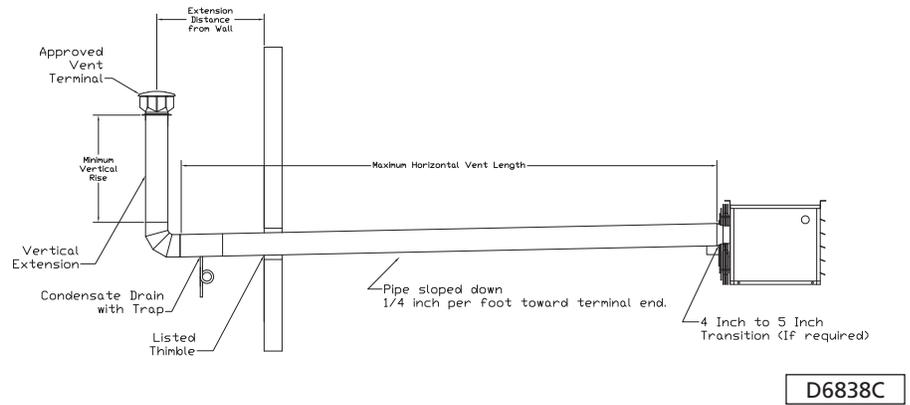

Figure 7 – Horizontally Vented Unit Heater – Category I
6. Seal all vent pipe joints and seams to prevent leakage. Use General Electric RTV-108, Dow-Corning RTV-732, or equivalent silicone sealant with a temperature rating of 500 deg. F, or 3M # 425 aluminum foil tape (or equivalent). The vent system must be installed to prevent collection of condensate. Pitch horizontal pipes downward ¼ inch per foot (21mm per meter) toward the outlet for condensate drainage. Install a tee with a condensate drain at the low point of the pipe (see Figure 7). As an alternate, a 3/8 inch diameter hole may be drilled at the low point of the pipe for condensate drainage.